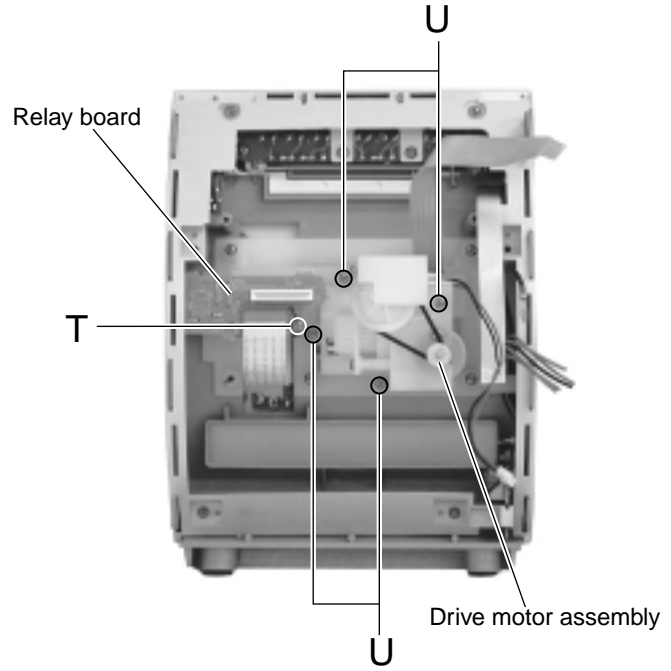

Fig.29
■ Removing the relay board (See Fig.29)
■ Removing the drive motor assembly (See Fig.29 and 30)